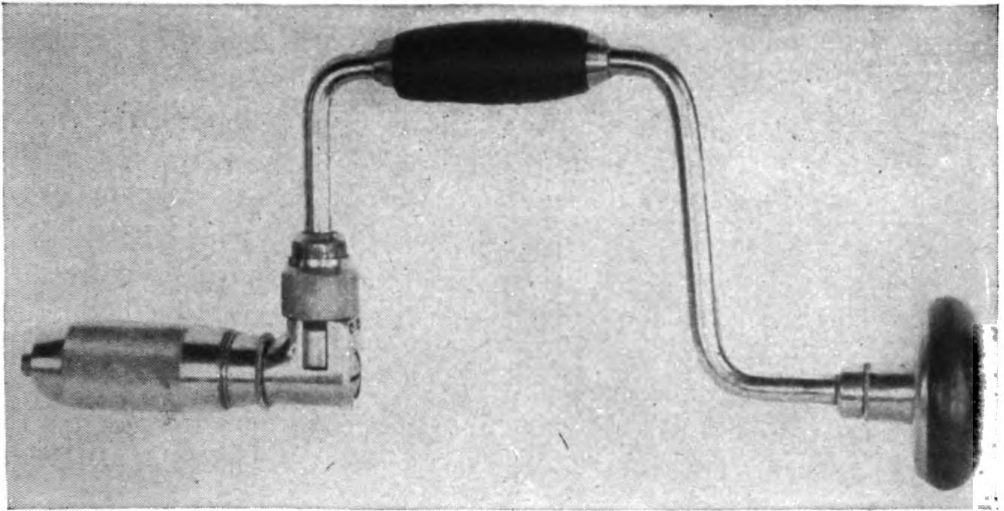

Figure 87. Brace.
*b. BRACE.* (1) A woodworking brace is shown in figure 87. It is used to hold the turn bits while boring holes in wood. The head and handle are usually mounted with ball bearings and should be kept lightly oiled. The chuck is the part which holds the bit. There is usually a ratchet located between the chuck and the rest of the brace to be used when working in close quarters.